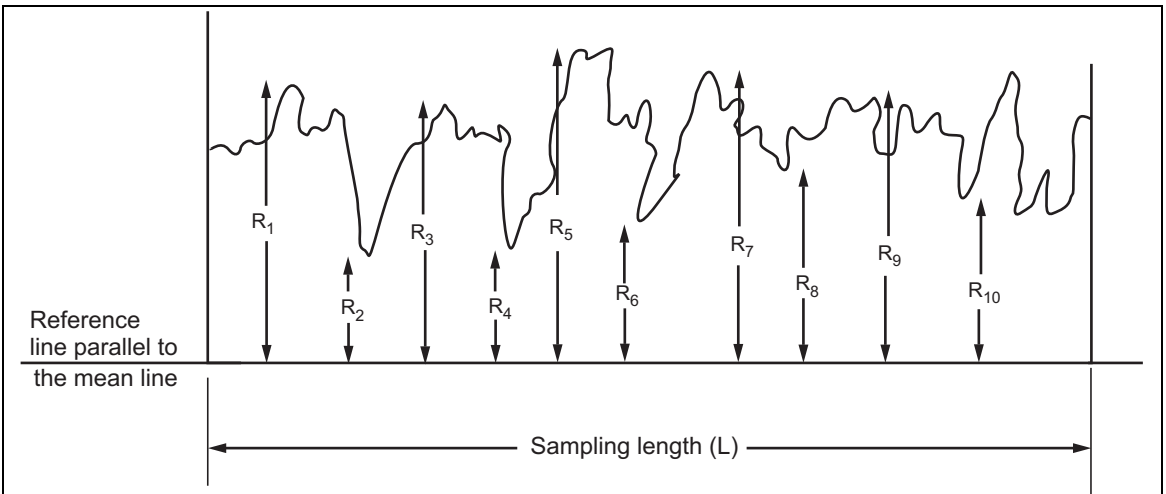

Fig. 7.3: Ten point height irregularities method to calculate R_z value
- **R_z value** is defined as, "the average difference between five highest peaks and five lowest valleys of surface texture within sampling length, measured from a reference line parallel to mean line and not crossing the profile". Refer Fig. 7.3.